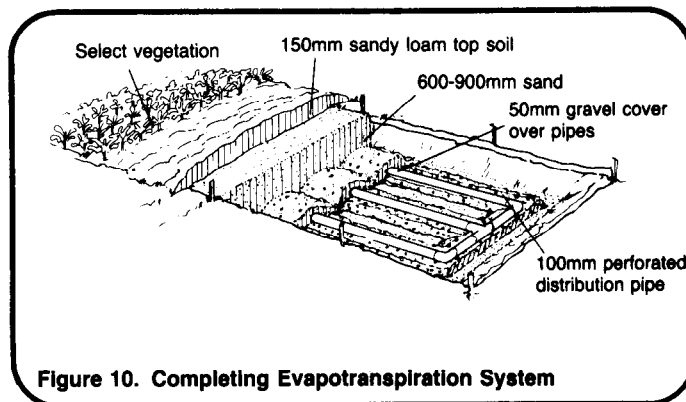

Figure 10. Completing Evapotranspiration System
5. Completing the System. Fill the excavation with 600-900mm of sand. Cover the sand with about 150mm of top-soil and mound the soil for surface drainage. Plant selected vegetation over the system. See Figure 10.